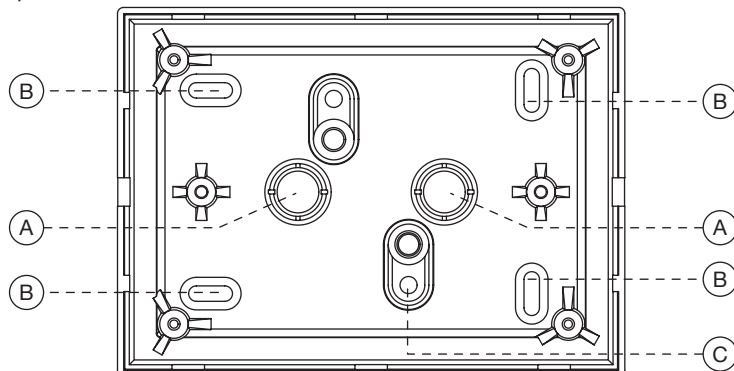

Figure 17 – Wall mounting box for keypad
1. Open one or both the cable apertures (figure 17, A).
2. Place the wall mounting box and mark the fixing holes (figure 17, B) and the hole for the anti-removal tamper (figure 17, C).